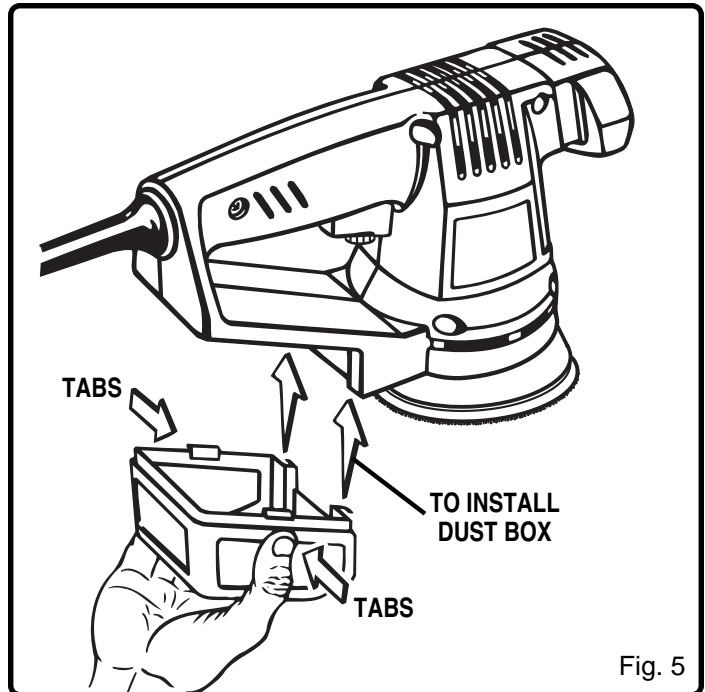

Fig. 5
See Figure 5.
- Slide dust box on sander as shown in figure 5. You will feel a soft click as the tab snaps into place.